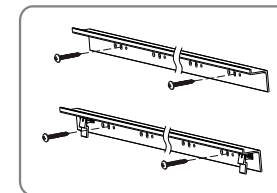

Figure 19
- Wood wall mounting: to fix the brackets onto the wall using 4 provided Wooden screws $\varnothing 5 \times 60$, two screws for each bracket. (Figure 19)